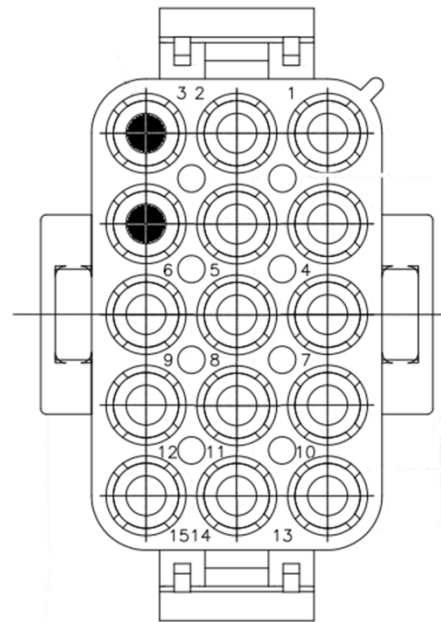

FIGURE 17: C18 PINOUT
8. Create working space in the fore section of the compartment by removing three I/OA modules and the ABS module. (Figure 17)